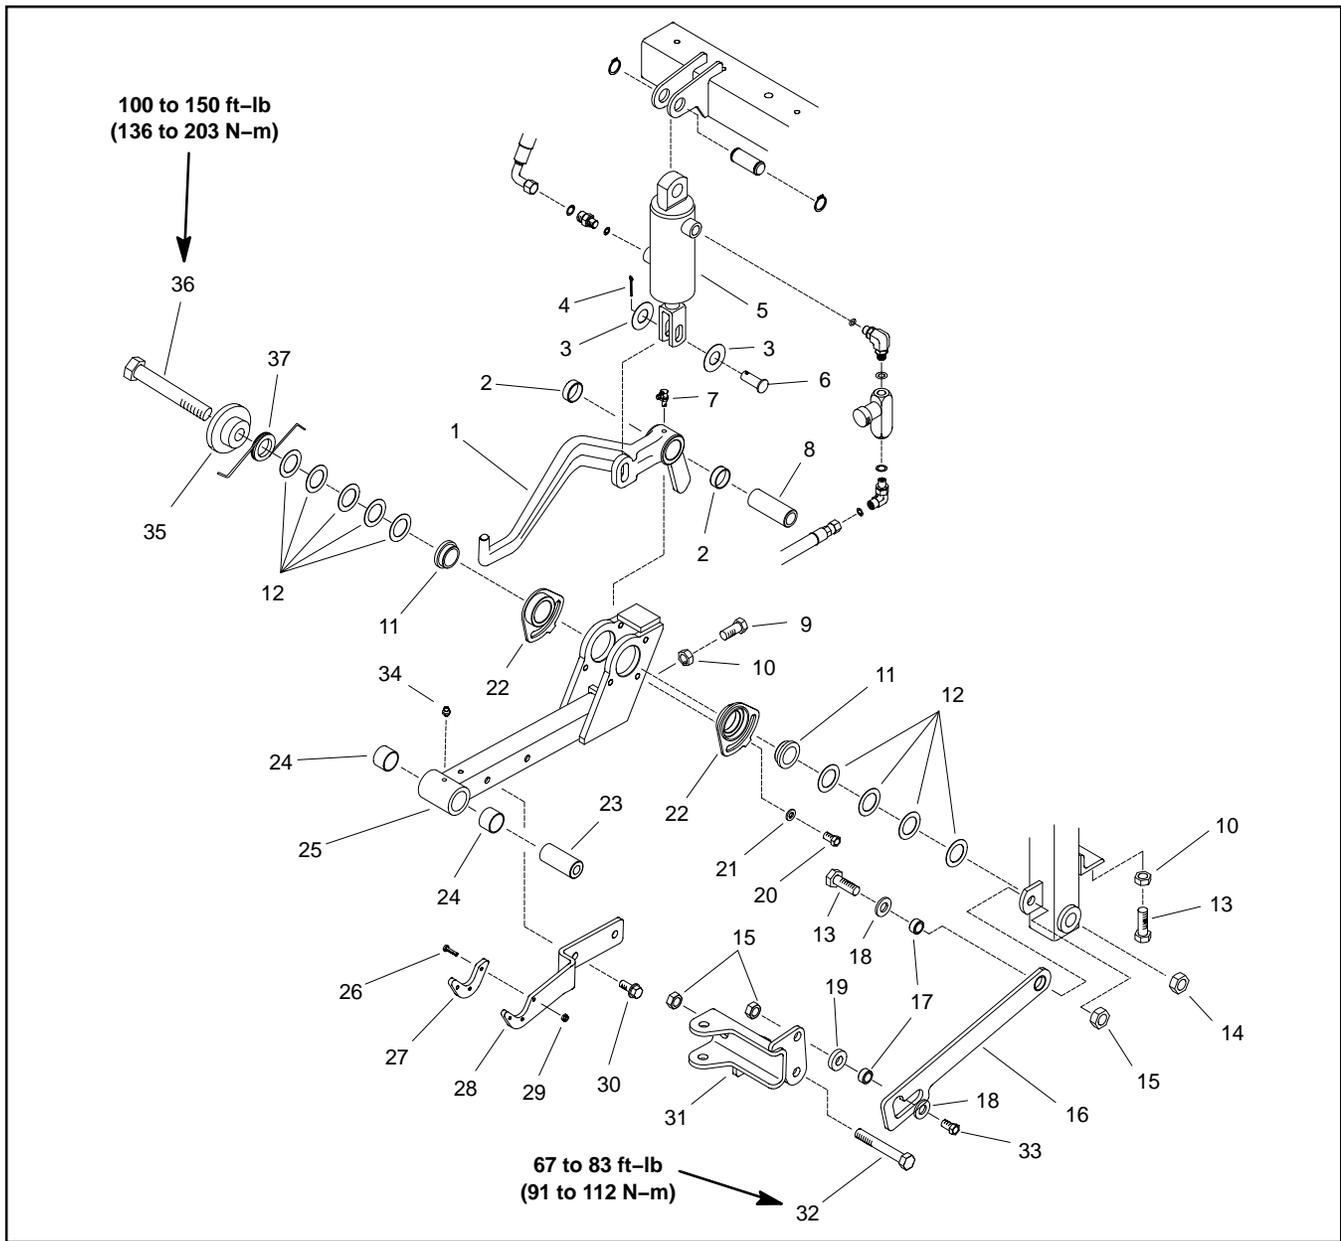
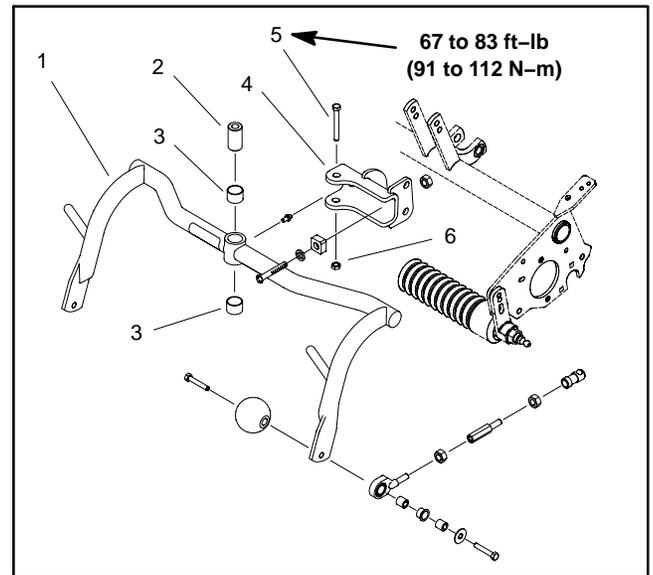

Figure 12
Figure 13
Disassembly (Fig. 12)
3. Disassemble center lift arm as needed using Figures 12 and 13 as guides.
1. If lift frame (item 25) was removed from machine:
- A. Adjust eccentric bushings (item 22) as needed so that lift frame is level when the lift frame is in the raised position.
- B. Install thrust washers (item 12) as needed so that lift frame is centered between the front wheel mounts when the lift frame is in the raised position.
2. Assemble center lift arm using Figures 12 and 13 as guides.
- A. If clevis (item 31) was removed from center lift frame, torque cap screw from 67 to 83 ft-lb (91 to 112 N-m).
- B. If pull frame (item 1 in Fig. 13) was removed from clevis on lift frame, torque cap screw from 67 to 83 ft-lb (91 to 112 N-m).
4. Check that when raised to the transport position, the cutting unit is secured by the transport plate. If necessary, loosen two cap screws (item 30) and reposition transport plate.